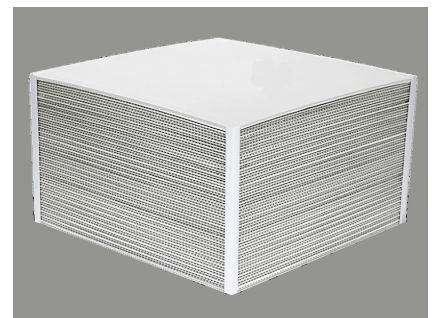

FIGURE 4
11. Plate Heat Exchanger (Figure 4)